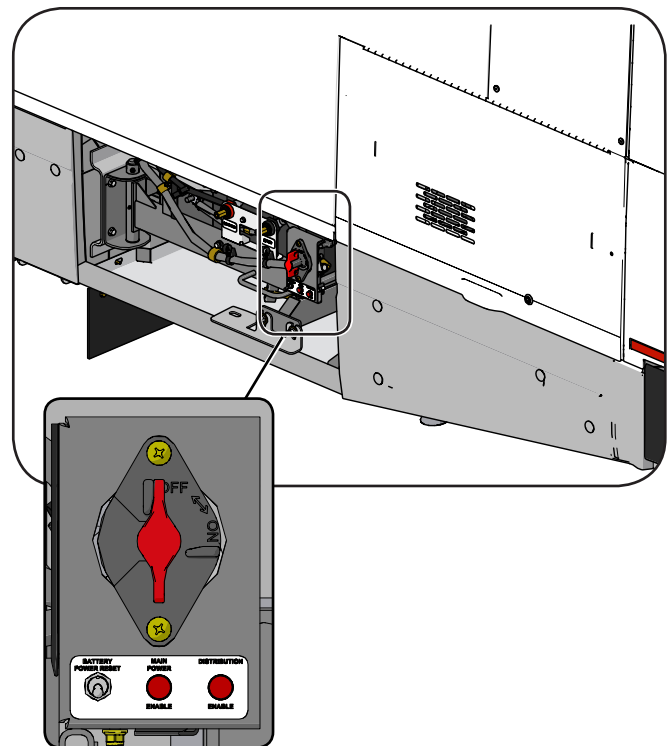
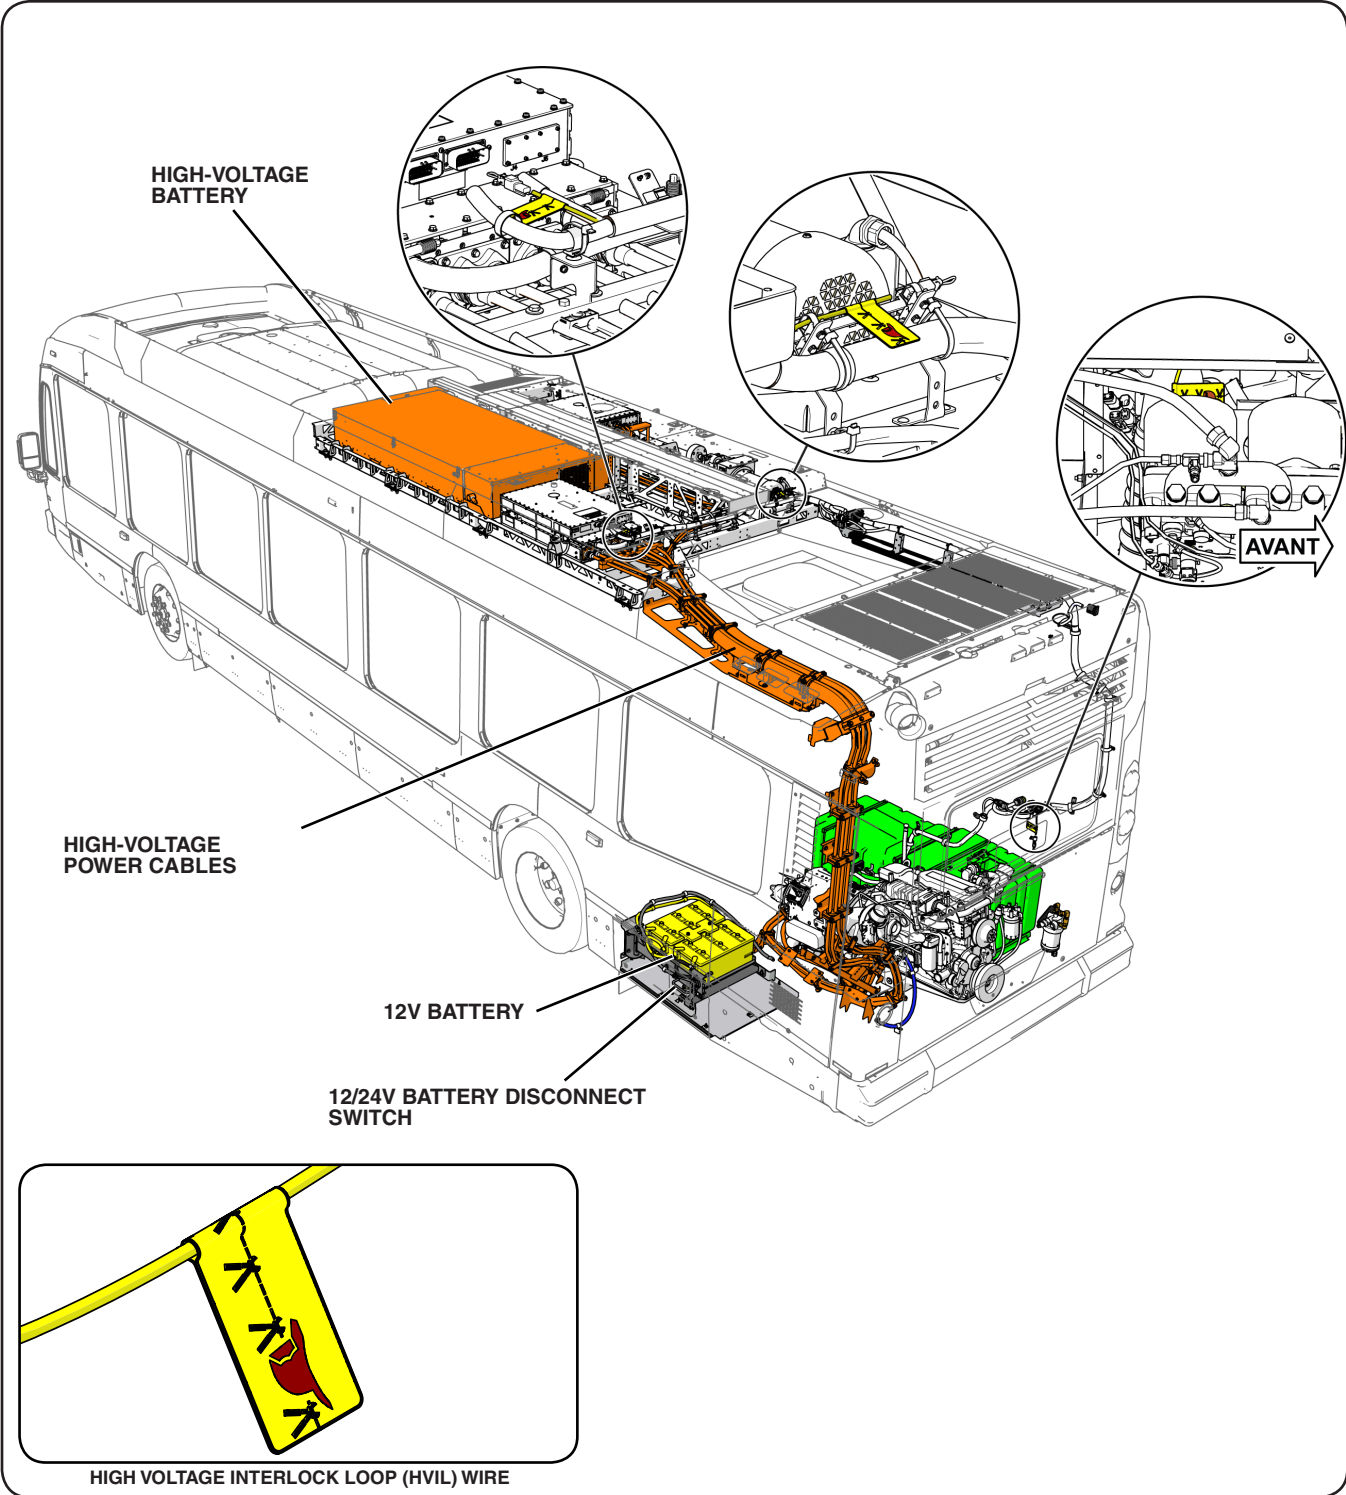

Figure 3 - 12/24V Battery Disconnect Switch
Figure 4 - Components Location
2. If street side engine access door is accessible, **IT IS CRITICAL TO** Turn the 12/24V battery disconnect switch to the OFF position (See Figure 3 and Figure 4).
1. Locate **yellow wire** with yellow tags on the roof of the vehicle or in the curb side engine access door (See Figure 4).